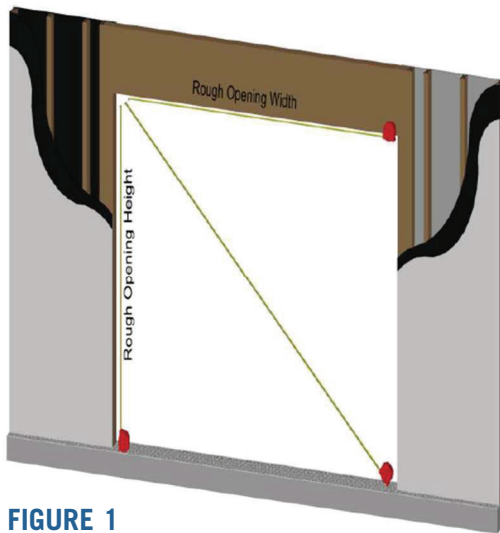

FIGURE 1
1. Prior to checking the dimensions for the systems, ensure that the opening is square and plumb at the size stated on your order. (Fig.1)
2. Using a tape measure, check the height, width, and the dimension across the opening. The opening should be 1" larger than the assembled unit. (Fig.1)